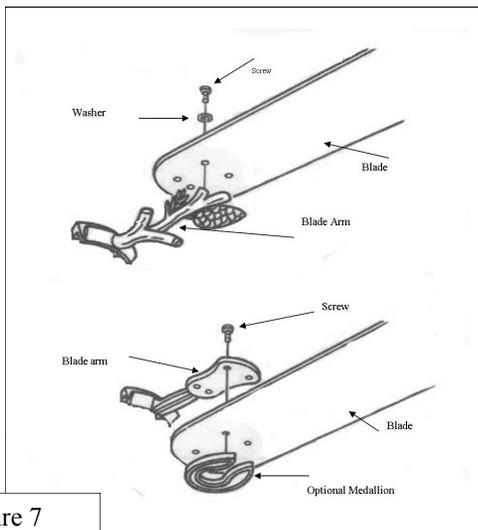

Figure 7
- Attach each fan blade to a blade arm with included screws. The arm style will vary and may include a star, horseshoe, squares or other medallion on some models. (see Figures 7)